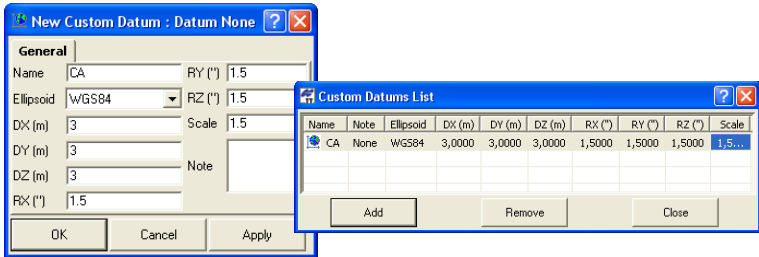

Figure 2-21. New Custom Datum
3. On the *New Custom Datum* dialog box, enter the following information and click **OK** (Figure 2-21). Enter the DX/DY/DZ, RX/RX/RZ, and Scale parameters with respect to the WGS84 datum.